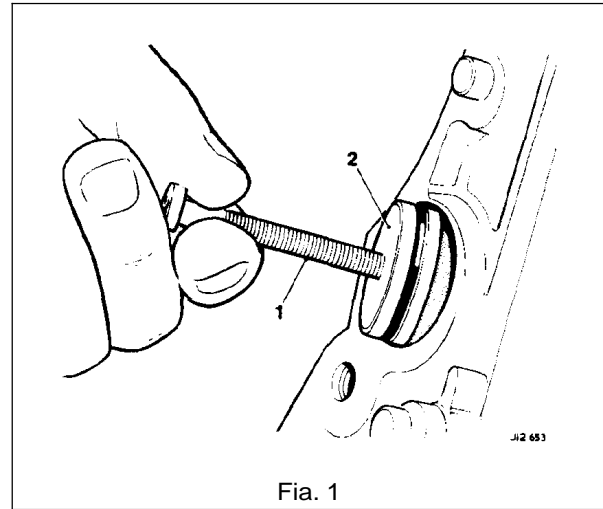

Fig. 1
- Fit suitable bolts to the oil gallery plugs and pull to remove (Fig. 1). Check all cylinder block oil galleries for cracks and blockages. Fit new 'O' rings to the oil gallery plugs, lubricate the 'O' rings and fit the plugs to the cylinder block oil galleries.
- Insert each new piston ring into the cylinder bore, (1 Fig. 1) ensuring they are square in the cylinders and check the gap using a strip gauge (2 Fig. 1).